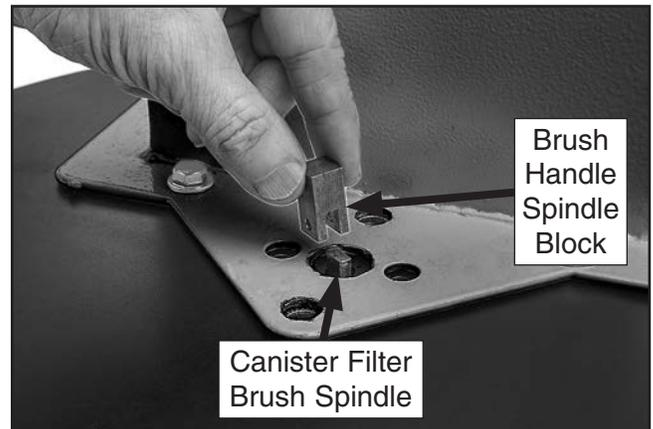

Figure 25. Attaching brush handle spindle block to canister filter brush spindle.
21. Place brush handle spindle block over canister filter brush spindle, as shown in **Figure 25**.